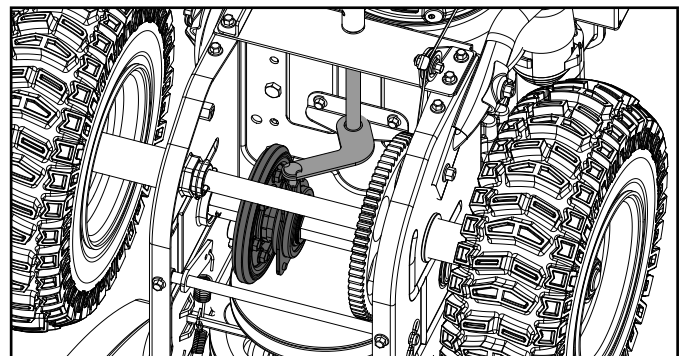

Figure 52
7. Follow the previous steps in reverse order to reassemble the parts (Fig. 52).